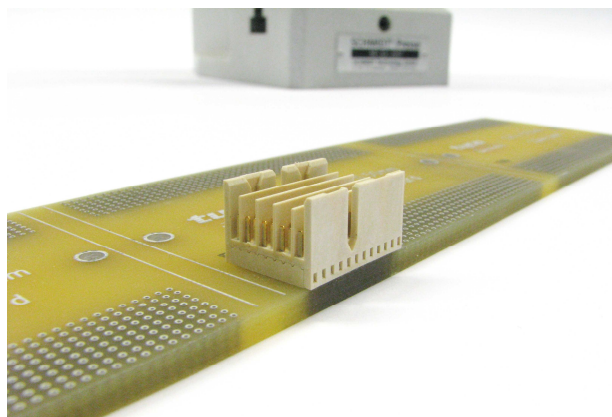

Figure 9
5. After that the insertion procedure is completed and the pc-board with the pressed-in male connector may be removed (see figure 9).